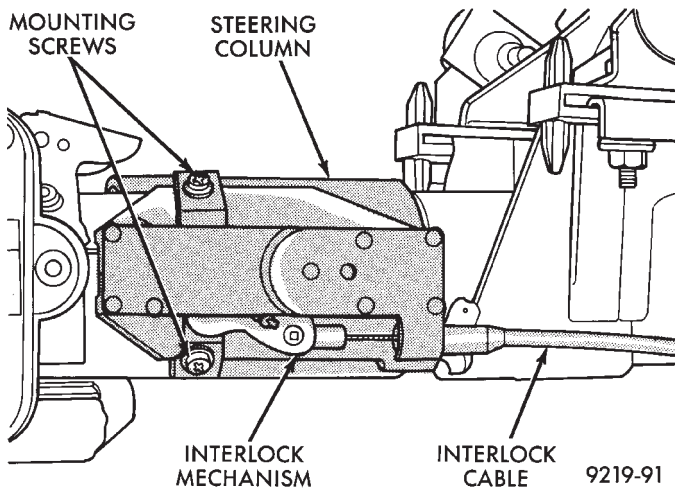

Fig. 13 Removing Interlock Mechanism
(12) Remove the 2 screws holding the interlock mechanism to the steering column (Fig. 13). Mechanism is held to column by clips on back of mechanism, then pull mechanism strait out from steering column.
(13) Route interlock cable from under center console mounting bracket and out front of dash panel.
(4) Install the 2 interlock mechanism to steering column attaching screws (Fig. 13) and torque to 3 N·m (21 in. lbs.).